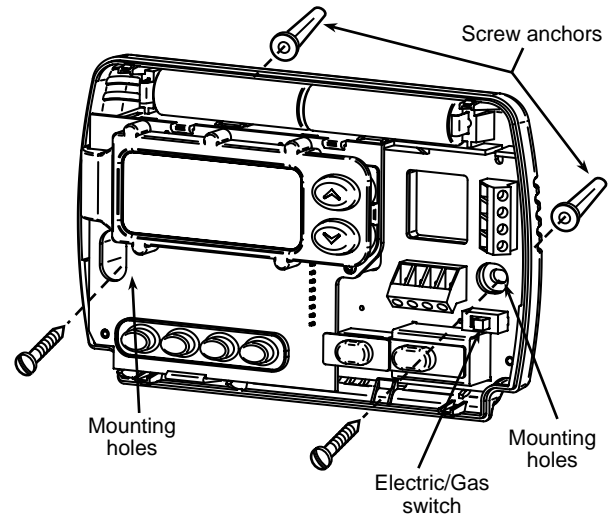

Figure 1. Thermostat Base
This thermostat is configured from the factory to operate a heat/cool, fossil fuel (gas, oil, etc.), forced air system. It is configured correctly for any system that DOES NOT require the thermostat to energize the fan on a call for heat. If your system is an electric heat or heat-pump system that **REQUIRES** the thermostat to turn on the fan on a call for heat, locate the **ELECTRIC/GAS switch** on the back of the thermostat (see fig. 1) and switch it to the **ELECTRIC** position. This will allow the thermostat to energize the fan immediately on a call for heat. If you are unsure if the heating/cooling system requires the thermostat to control the fan, contact a qualified heating and air conditioning service person.
5. Fasten base loosely to wall, as shown in fig. 1, using two mounting screws. Place a level against bottom of base, adjust until level, and then tighten screws. (Leveling is for appearance only and will not affect thermostat operation.) If you are using existing mounting holes, or if holes drilled are too large and do not allow you to tighten base snugly, use plastic screw anchors to secure subbase.
If **"BATT"** is displayed, the batteries are low and should be replaced with fresh "AA" Energizer® alkaline batteries. To replace batteries, install the batteries along the top of the base (see Fig. 1). The batteries must be installed with the positive (+) end to the left.